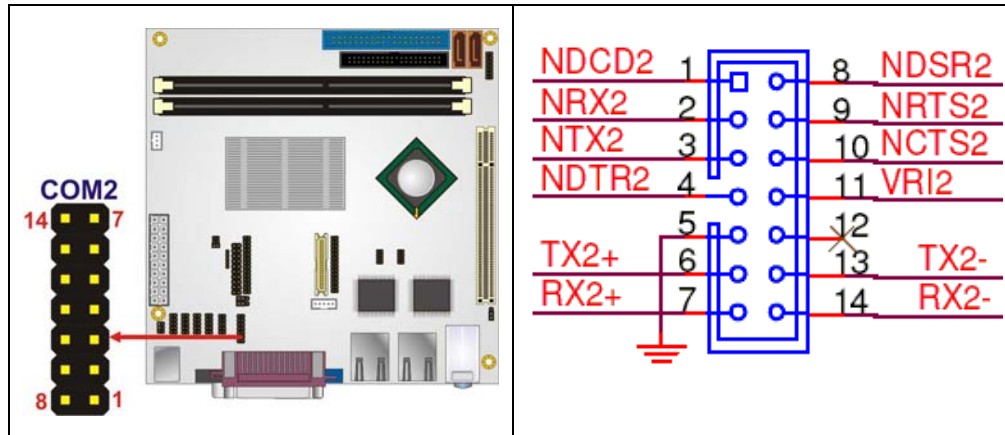

Figure 4-15: RS-232/422/485 Serial Port Connector Location
**CN Location:** See Figure 4-15